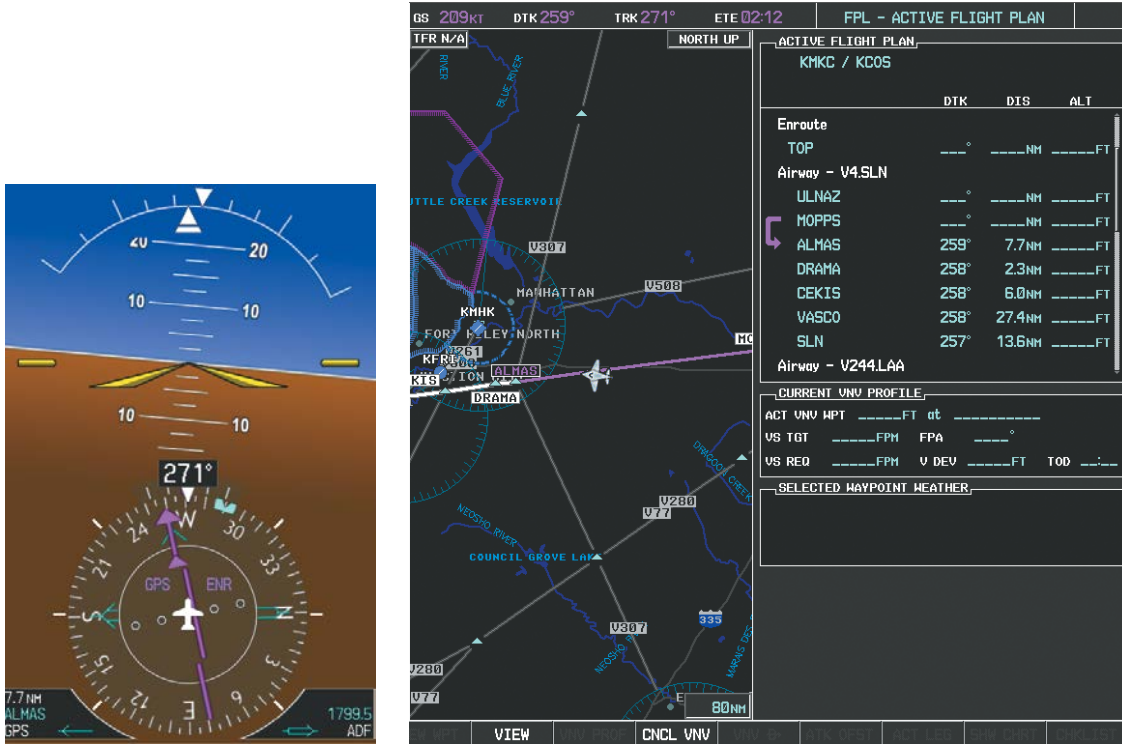

Figure 5-123 Turn on to Active Leg
7) As the CDI approaches center, the aircraft turns onto the active leg as seen in Figure 5-123.